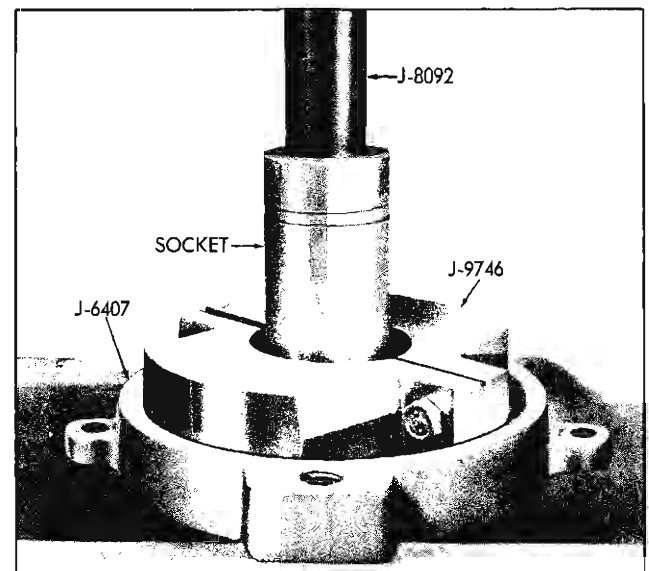

Fig. 4-39 Removing Rear Pinion Bearing
3. Clamp rear pinion bearing in tool J-9746 and support in press with J-6407 holder. Press off rear pinion bearing using J-8092 handle and large socket as adapter to bear against pinion (Fig. 4-39).